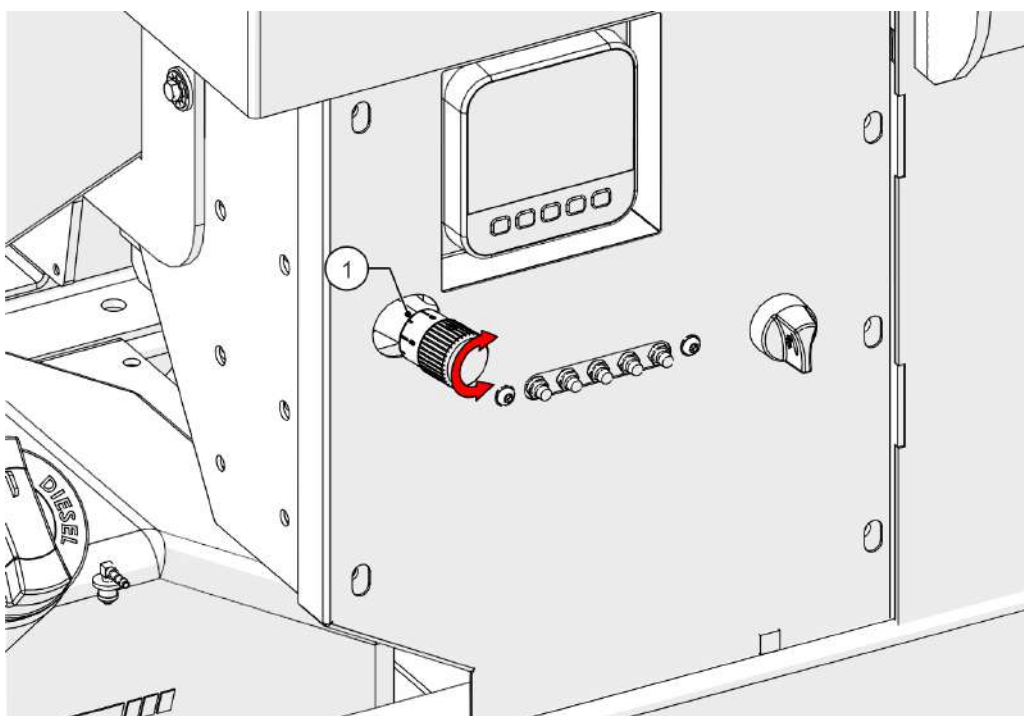

Figure 31 - Feed roller speed adjustment
The feed roller speed can be adjusted to suit the material being chipped, refer to Figure 31.
1. Turn dial to align number with paint spot (1, Figure 31).
Position indicated by paint spot. (1, Figure 31):